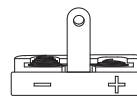
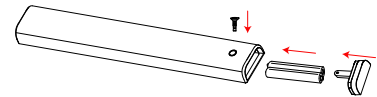

Figure 1
Figure 2
3. Install the batteries as shown in the illustration in the battery well (Figure 2). Please note there are negative and positive marks shown on the battery cover (Figure 1). Reassemble the battery cover and tighten the screw then test the control for proper operation.